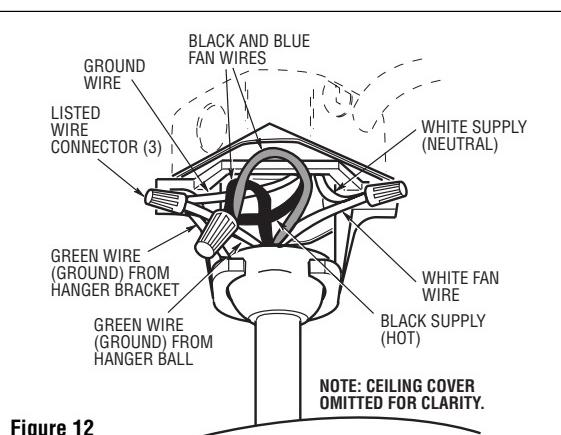

Figure 12
- Securely connect the fan motor white wire to the supply white (neutral) wire using wire connector supplied (Figure 12). Securely connect the fan motor black wire and blue wire to the supply black (hot) wire using wire connector supplied (Figure 12). After connections have been made, turn leads upward and carefully push leads into the outlet box, with the white and green leads on one side of the outlet box and the black and blue leads on the other side of the outlet box.